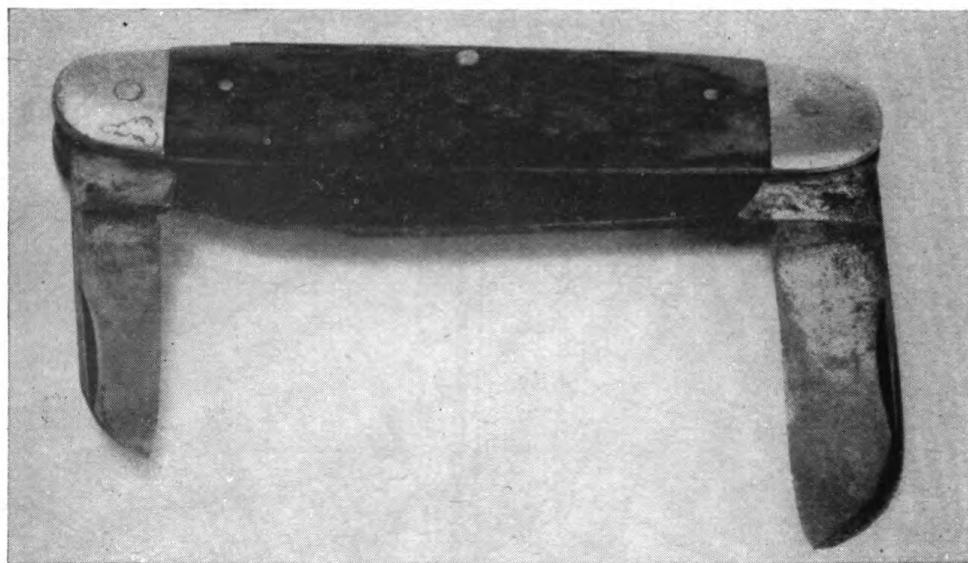

Figure 107. Pocket knife.
i. KNIFE. The knife used most frequently by the airplane mechanic will be the three-bladed pocket knife shown in figure 107. It is used for a variety of purposes. One blade is usually kept sharp and used as any other cutting tool is used. One blade is usually left dull and is used to remove insulation from electric wiring. To prevent accidents, the blades should always be closed when not actually in use.